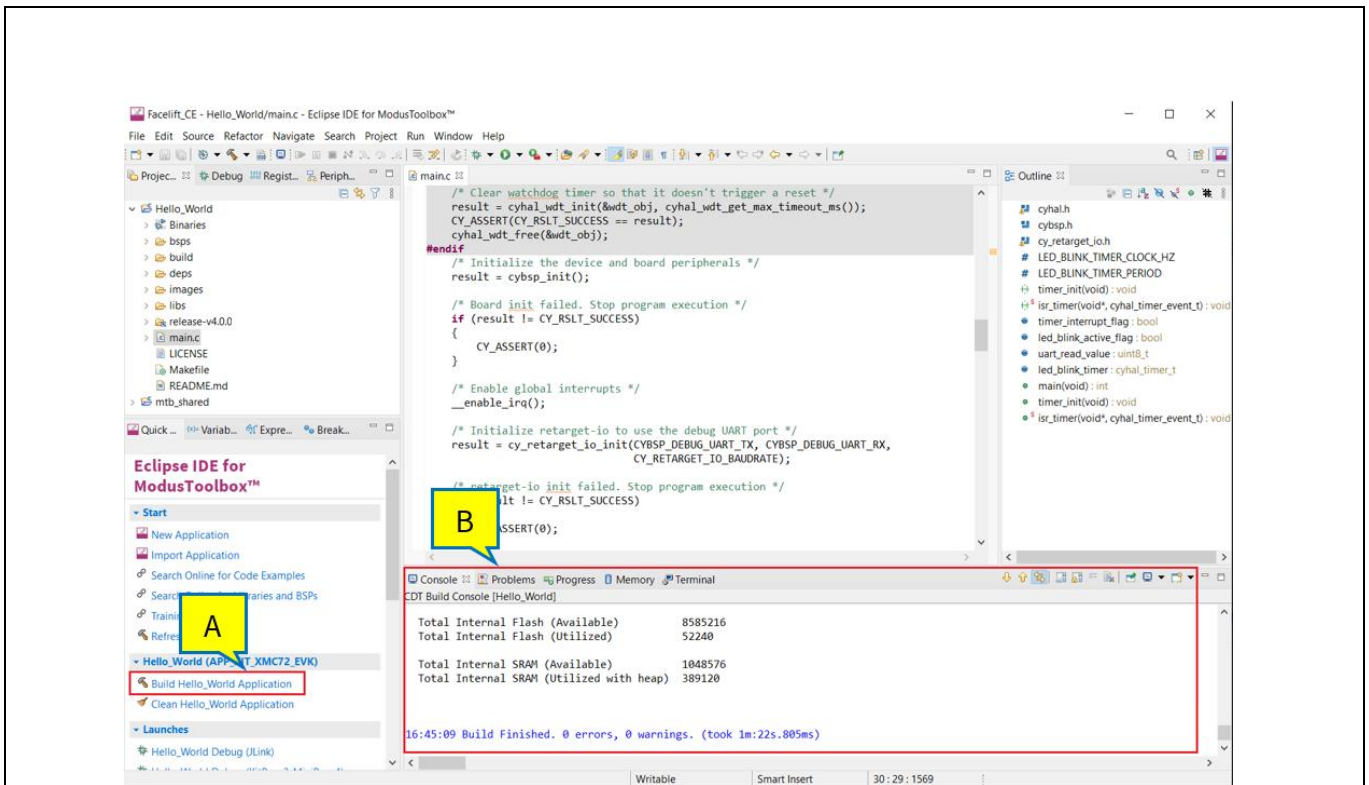

Figure 14 Build the application
- b) The **Console** view lists the results of the build operation, as **Figure 14** shows.